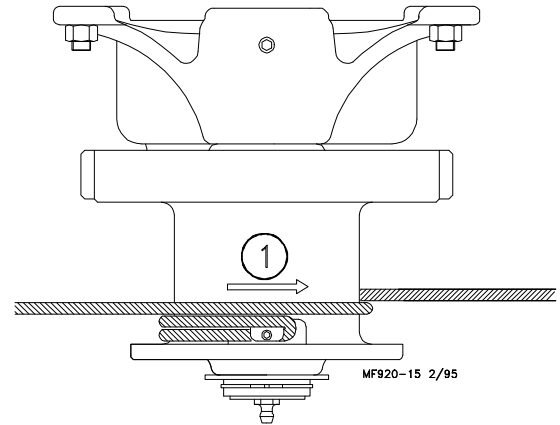

Figure 25. (End View)
- Turn the winch drum one full revolution. Guide the cable against the flange at the bottom of the winch drum. The cable must not wrap over itself on the drum, but should be wrapped as close as possible to each previous wrap. **See Figure 25.**